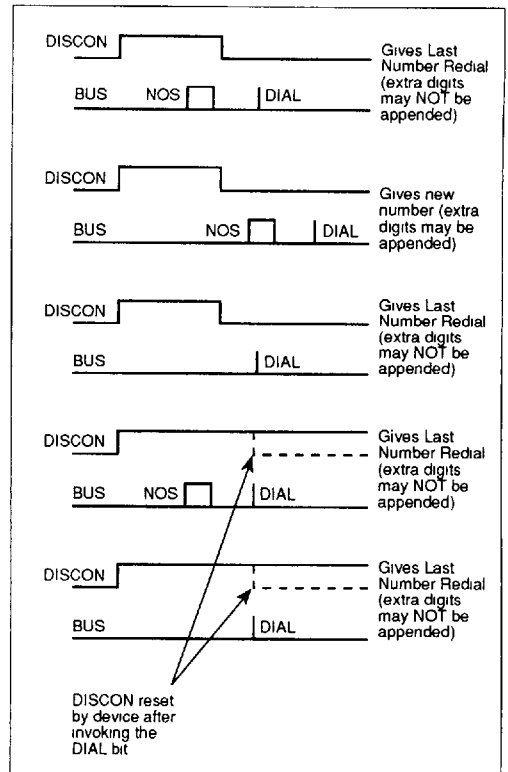

Figure 8: LNR protocol - Modem mode
- (ii) No digits are loaded between DISCON being set and DIAL being set in Modem Mode.(See Fig. 8).